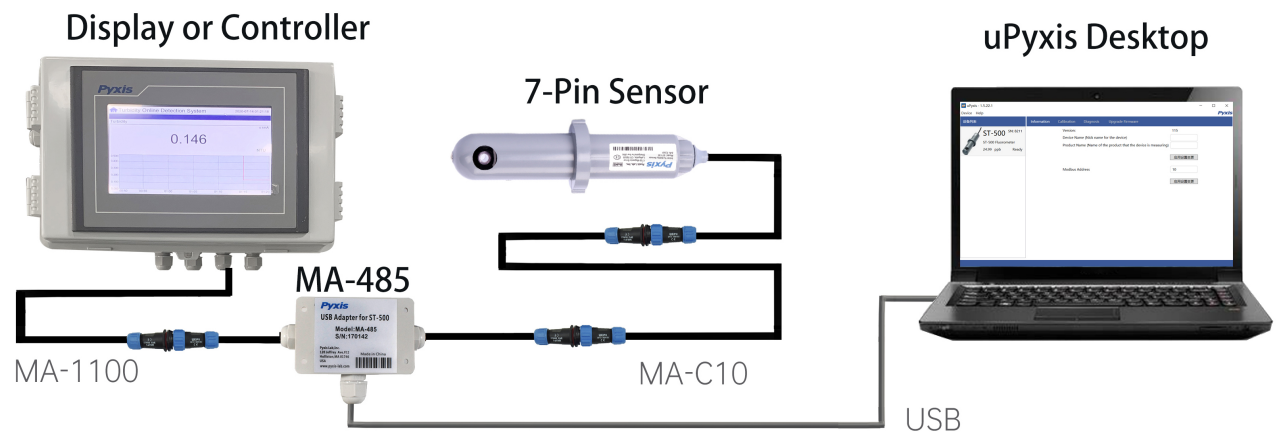

Figure 14. 7-Pin Sensor with MA-485 and uPyxis Desktop
3. On **uPyxis®** Desktop App, click Device→ **Connect via USB-Bluetooth** or **Connect via USB-RS485** (Figure 14).
4. If the connection is successful, the ST-500 Series and its Serial Number (SN) will be displayed in the left pane of the **uPyxis®** window.